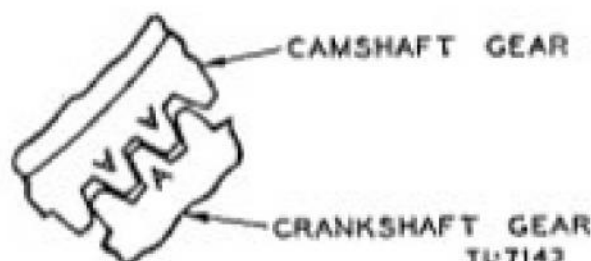

Figure 27. Correct position of timing gears.
a. With the engine front cover removed, the timing-gear train is accessible. The camshaft gear operates directly off the crankshaft gear and drives the accessory shaft drivegear. These three gears must be in their proper places to have the engine timed properly. When installing the camshaft gear, make certain the timing marks are aligned as illustrated in figure 27.
(4) When installing the camshaft, make certain that the marked teeth on the gear meshes with the marked teeth on the crankshaft gear, as shown in figure 27.